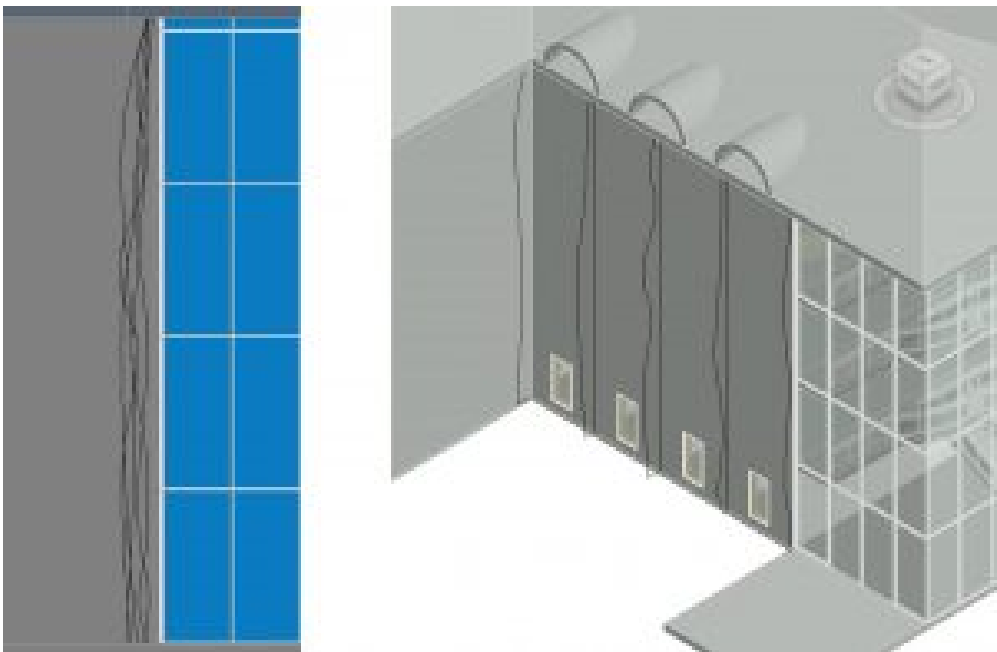

Figure 7.17 All reference planes are shown in the East view and 3D view
10. Continue steps 7 through 10 to draw 4 more profiles on reference planes 2, 3, 4 and 5 as shown in Figure 7.17